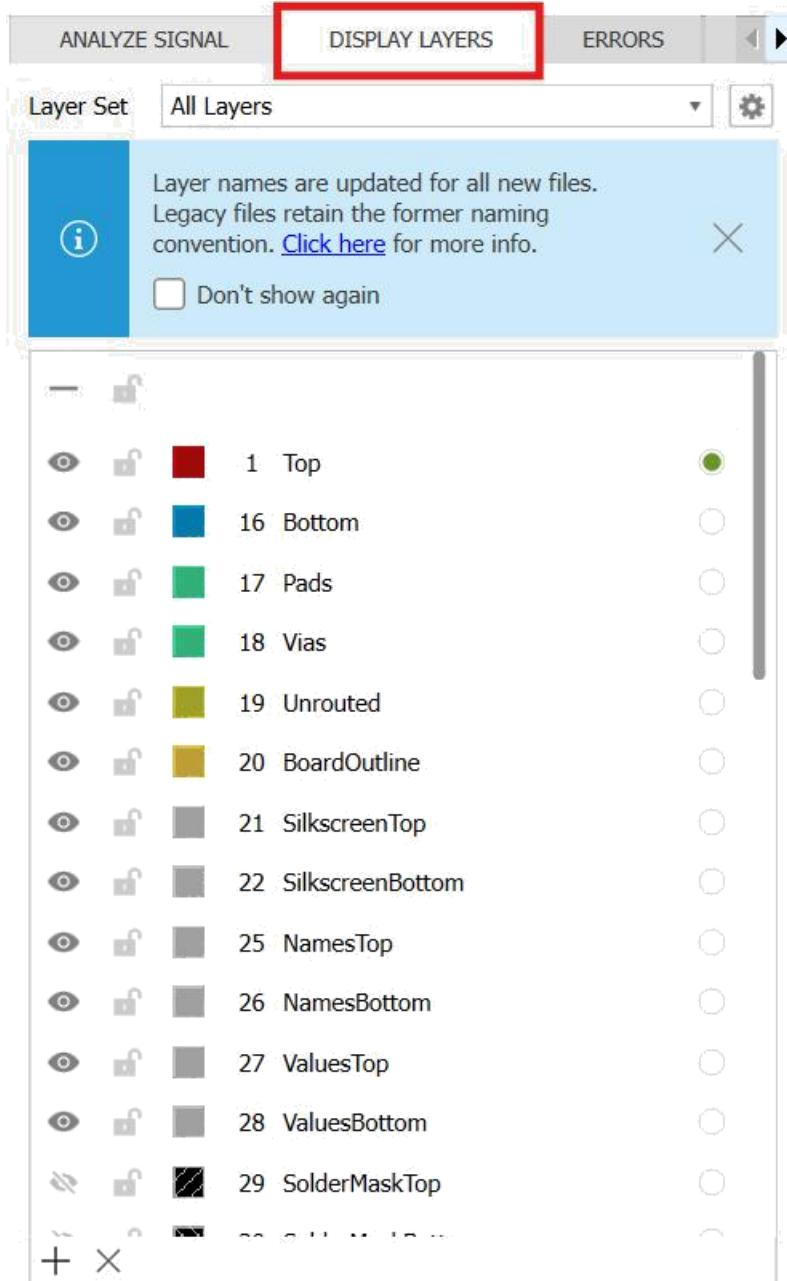

Figure 25: The various layers associated with the regulator board.
3.24: The Display Layers menu item (the menu item on the left tab) gives us a look at the layers associated with this board. Figure 25 shows the various layers. Clicking on the eye icon turns the layers on and off.